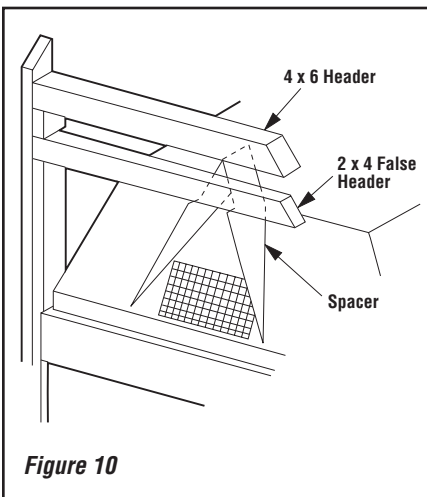

Figure 10
**Step 3.** Refer to fireplace drawings and specifications on **Pages 7 and 8** for framing dimensions and details. False header may be positioned directly on top of the fireplace spacers (see **Figures 10, 11 and 12**).